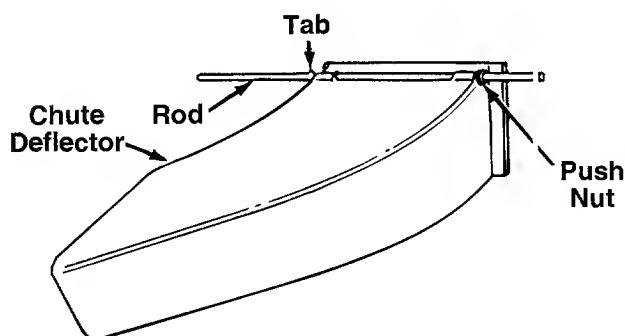

FIGURE 21.
1. Slide the rod into the upper edge of the chute deflector so the welded tab on the rod is toward the left side of the chute deflector. When assembled correctly, the rod will extend further to the left side than the right side. See figure 21.